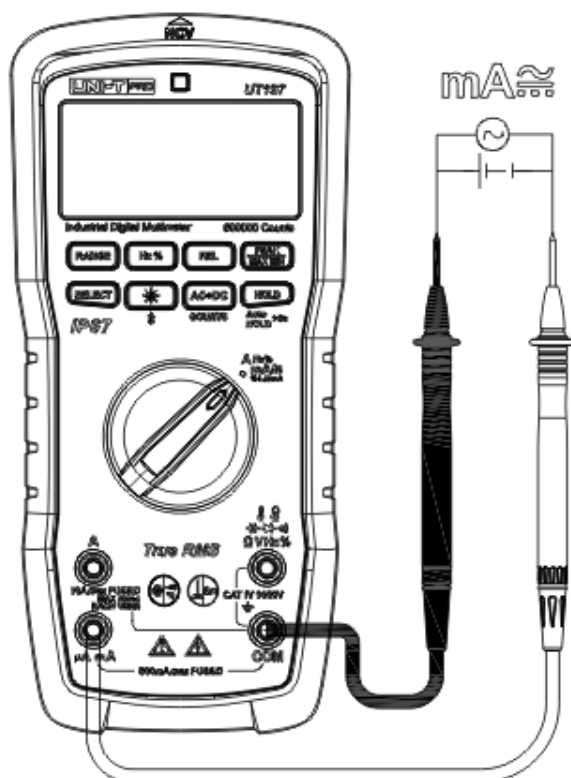

Figure 15
12. AC/DC mA measurement (Figure 15)